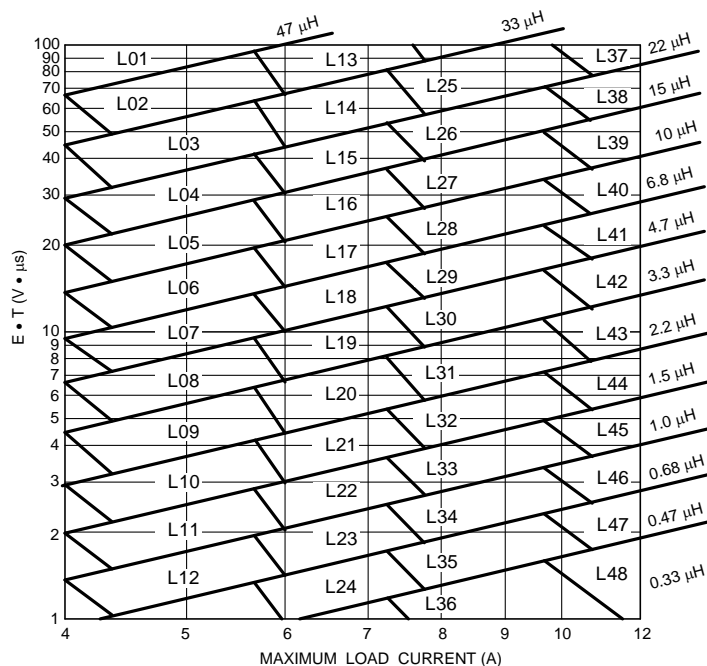

Figure 3. Inductor Nomograph
3. Determine Inductor Required Using Figure 3